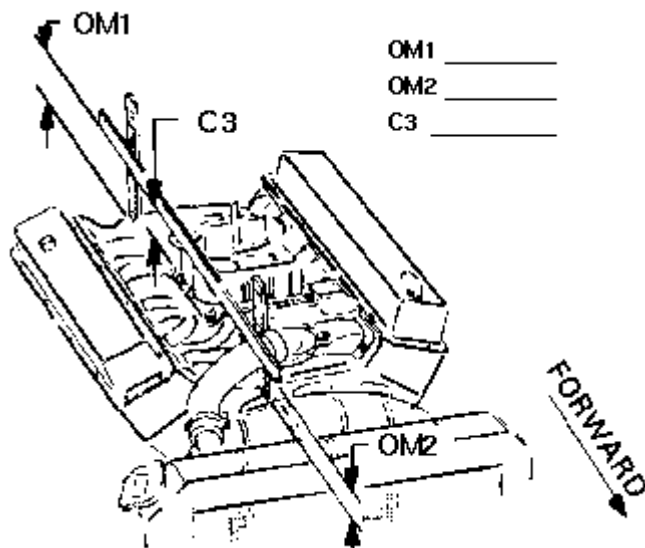

Figure 3
3. Measure from block and manifold end seal surface. See Figure 3.